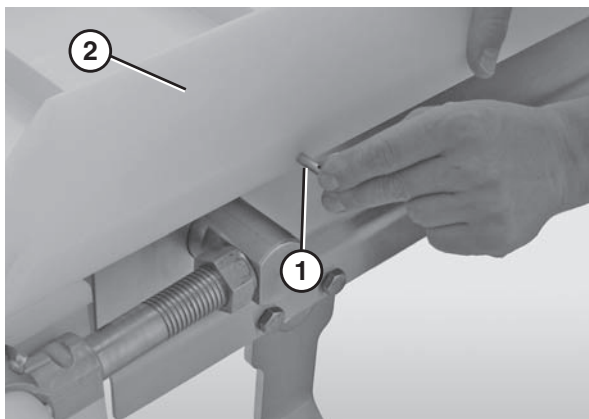

Figure 39
1. Remove the pull pins (**Figure 39, item 1**) that connect the guide (**Figure 39, item 2**) to the frame.